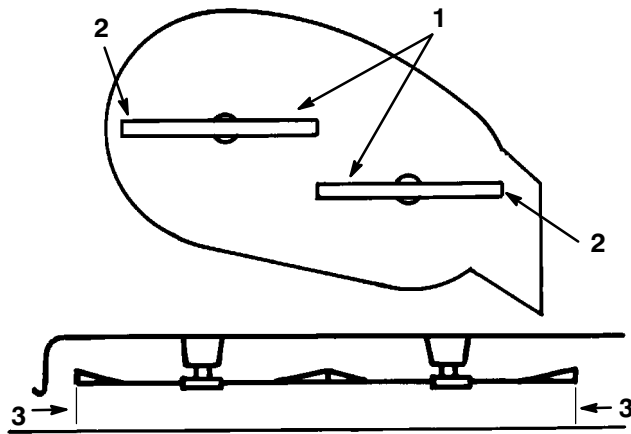

Figure 10
3. Carefully rotate blade(s) side to side (Fig. 10). Measure between the outside cutting edges and the flat surface (Fig. 10). If both measurements are not within 3/16 in. (4.762mm), an adjustment is required; refer to steps 4 through 6.
3. Carefully rotate blade(s) side to side (Fig. 10). Measure between the outside cutting edges and the flat surface (Fig. 10). If both measurements are not within 3/16 in. (4.762mm), an adjustment is required.